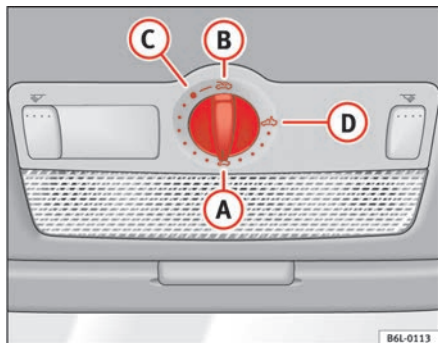

Fig. 53 Roof lining
- Turn the rotary button to position **(A)** ⇒ fig. 53 ⇒ .